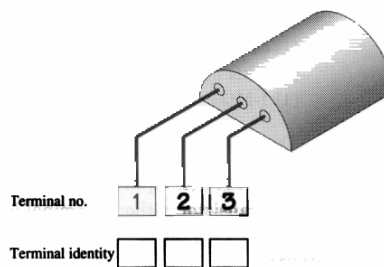

Figure 8-1 Determination of the identities of BJT leads.
- a. Label the transistor terminals of Fig. 8.1 as 1, 2, and 3. Use the transistor without terminal identification for this part of the experiment.